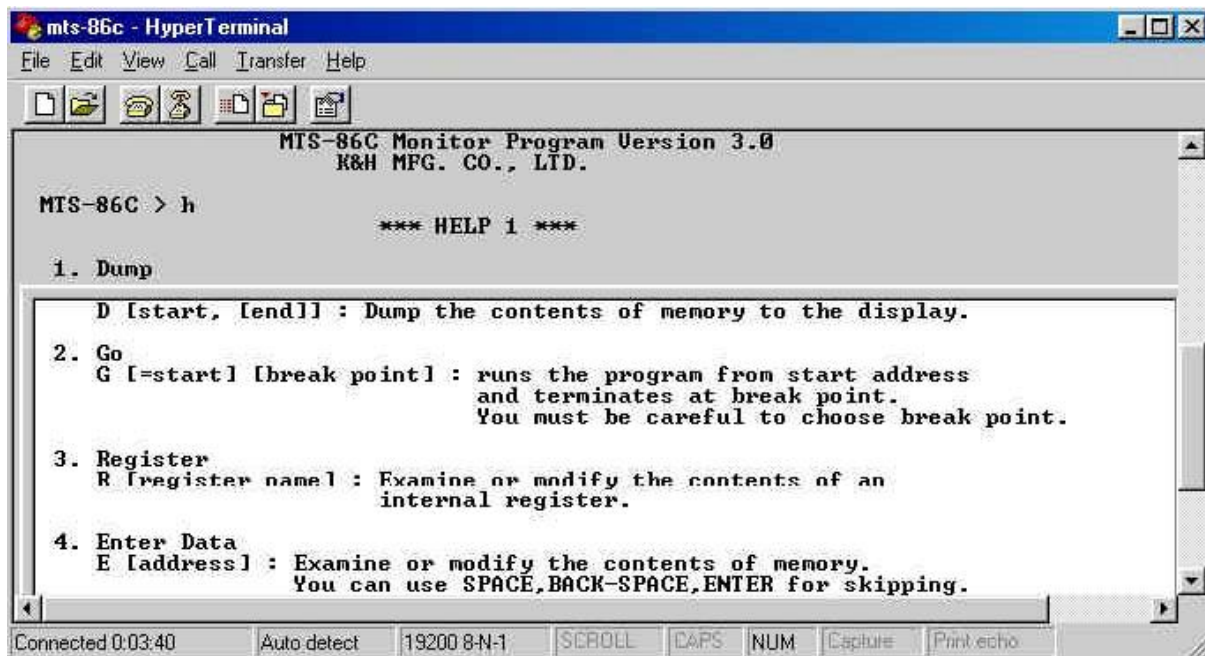

Fig. 1.16 Help command output in the hyper terminal window.
- g) You can Press "H" and press "Enter" from PC to ask for command help (Fig. 1.16).